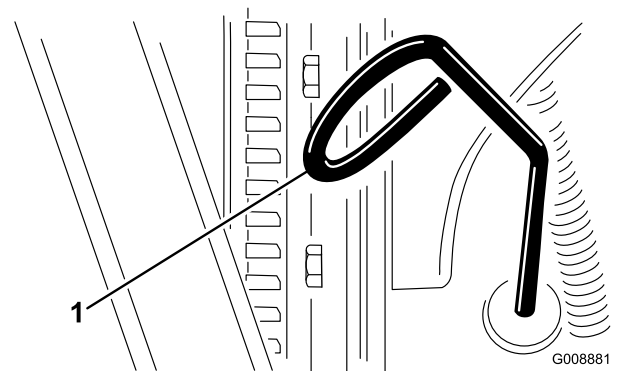

Figure 35
2. Remove the dipstick (Figure 35) and wipe it with a clean rag.